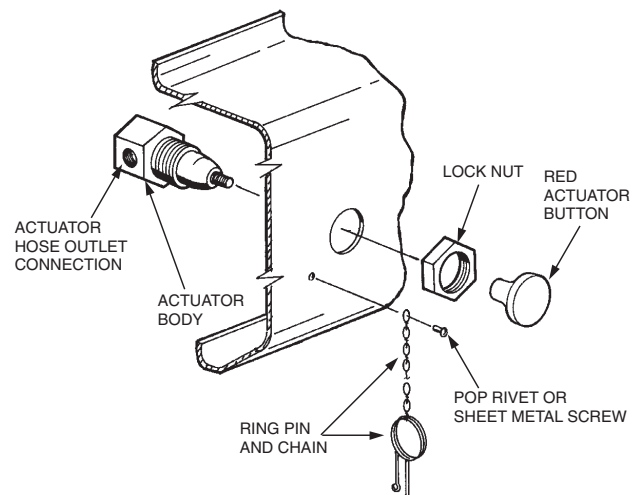

FIGURE 11
- Unscrew RED actuator button from actuator stem, remove locknut, and slide actuator body through mounting hole. See Figure 11.
- Rotate actuator body for desired location of actuation hose outlet connection. Screw locknut firmly onto actuator body and insert ring pin. Apply a non-permanent thread adhesive, such as Locktite 242 or equal, to the RED actuator button threads and then screw the button onto the stem. See Figure 11.
The ring pin chain may not be long enough in certain dashboard mounted locations. When this occurs, remove the chain from the drive pin in actuator body and attach it to an appropriate location using either a pop rivet or a sheet metal screw. See Figure 11.